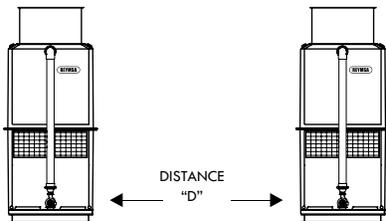

Figure A-1: Minimum recommended distance between towers
- Make sure that the area provides enough clearance for safe operation. Place towers far enough apart so that discharge air from one tower is not drawn in by another. See Table A-1 and Figure A-1 for suggested clearances between towers.